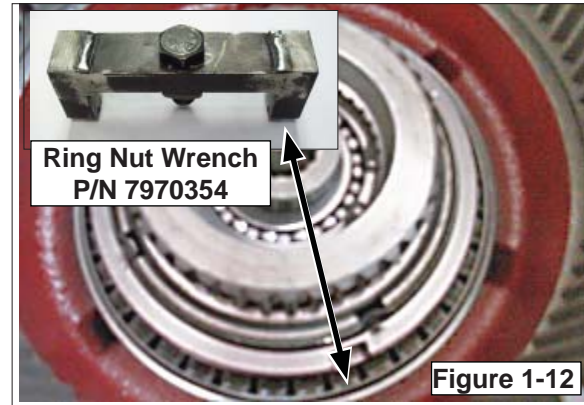

Figure 1-12
16. Install the bearing in the hub and drive or press the new seal in place using a suitable driver (FIGURE 1-12). Ensure that the bearing cones are assembled to mate with their original cups.
18. Seat the bearing cups by tightening the nut to 289 lb-ft. (39 Kg-M). Allow the hub to complete a number of revolutions. Loosen the nut and re-tighten to a torque of 79 +/- 4 lb-ft. Rolling torque should be between 6 and 10 lb-ft. (0.8 – 1.5 Kg-M) (FIGURE 1-12).